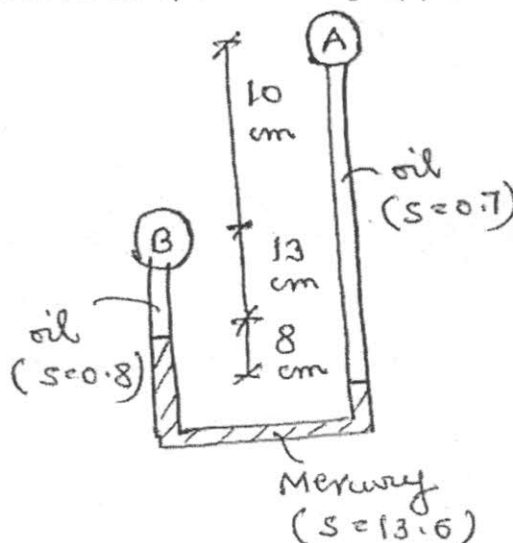

Fig. 2(d)
- d) State and explain Pascal's law. Evaluate the pressure difference between the points A and B in the set-up shown in Fig. 2(d).